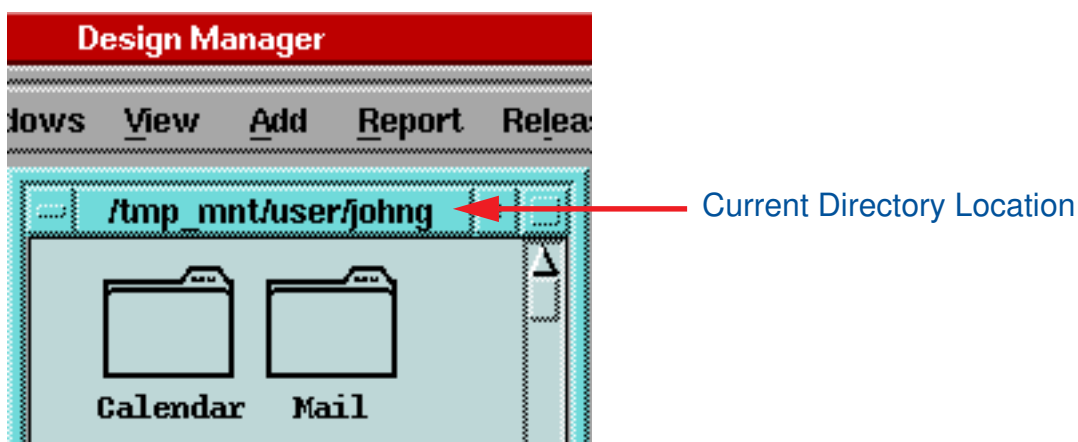
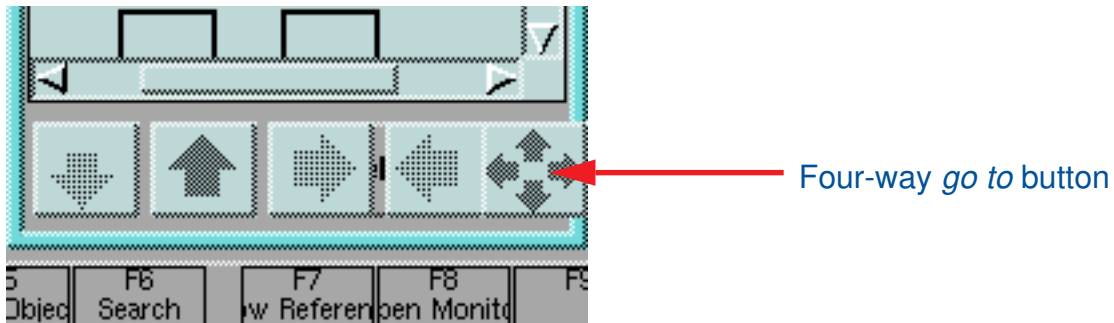

Figure 1. The Design Manager Navigator Window
Figure 2. Locating the Go To Button
4. In the Design Manager, you should see a navigator window, similar to the partial one shown in Figure 1. Read the current directory location pathname shown at the top of the navigator window. Decide whether this location is good for adding the directory that will contain your training data. If this is a good place to add your new training directory, you can skip to step 5. If you want to change the current directory location, place the cursor on the four-way *go to* button shown in Figure 2, and click the Select mouse button (the left mouse button by default). In the prompt bar that is displayed, enter the pathname to the directory in which you want to create your new training directory.